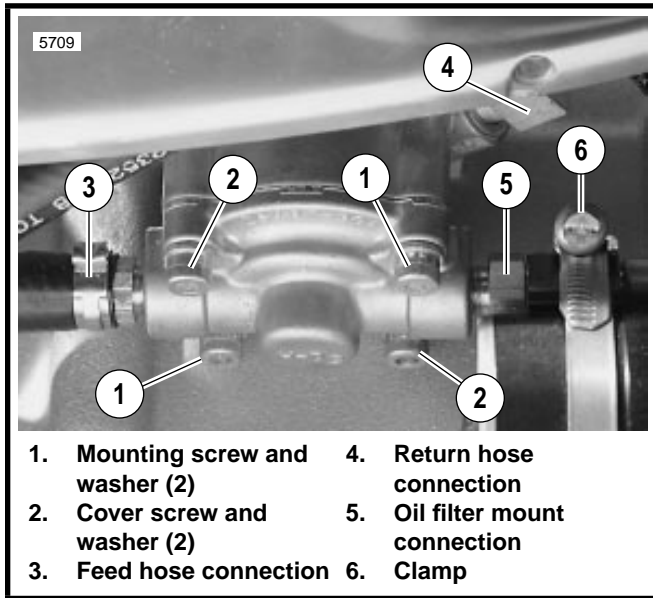

Figure 3-45. Oil Pump Hardware
2. See Figure 3-45. Detach clamp (6) from oil hose. Move rear shock rebound canister aside.
3. Disconnect feed hose (3) and oil filter mount connection (5).
7. Place **new** mounting gasket (10) in position.
8. See Figure 3-45. Attach return hose (4) to oil pump.
9. Secure pump to crankcase with screws (1) and washers. Tighten mounting screws to 125-150 **in-lbs** (14.1-16.9 Nm).
10. Connect feed hose (3) and oil filter mount connection (5) to oil pump.